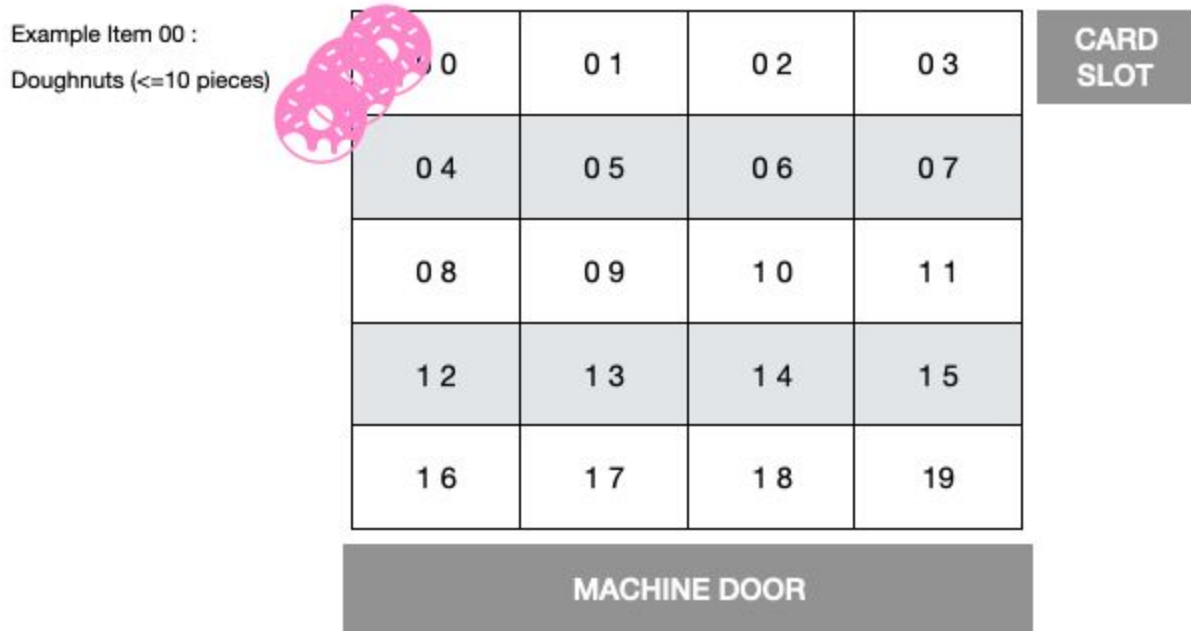

Fig 2: Vending Machine
2. Each snack is stored in a separate slot like the vending machines on campus (see Fig. 2). There can be upto 10 units of the snack stored in 1 slot. A counter for every slot keeps track of the number of units of the snack remaining in that slot.